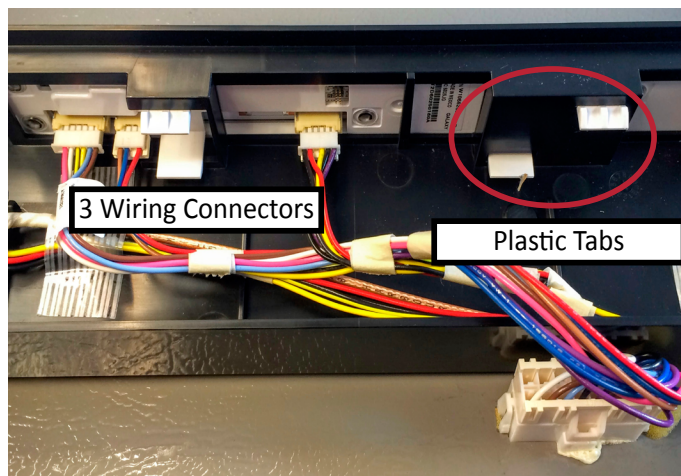

FIGURE 5: Wiring Connectors and Plastic UI Tabs
2. Disconnect the three (3) wiring connectors on the left side of the Eyebrow UI (FIGURE 5).
3. Depress the nine (9) white plastic clips holding the Eyebrow UI in place, and remove the UI (FIGURE 5).